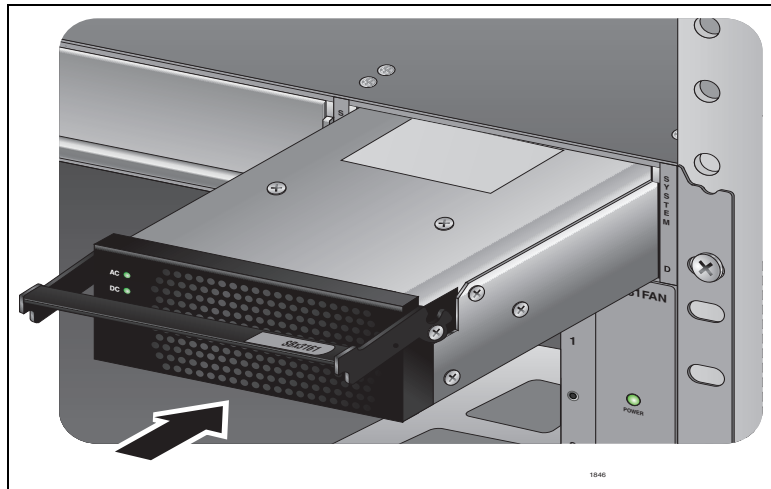

Figure 35. Inserting the AT-SBx3161 System Power Supply
6. Align and insert the AT-SBx3161 power supply into the slot you have chosen. Figure 35 on page 63 shows the power supply installed in slot D.